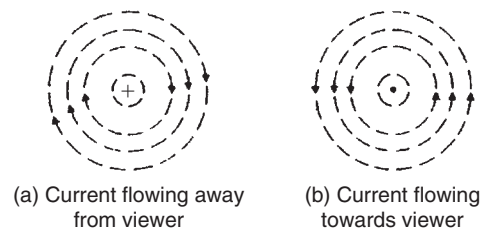
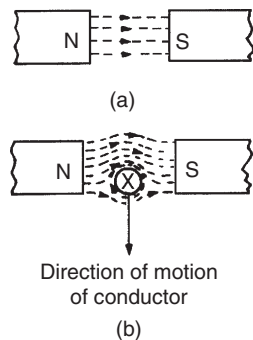

Figure 8.3
Figure 8.13
When dealing with magnetic fields formed by electric current it is usual to portray the effect as shown in Fig. 8.3. The convention adopted is:
- (i) Current flowing away from the viewer, i.e. into the paper, is indicated by  $\oplus$ . This may be thought of as the feathered end of the shaft of an arrow. See Fig. 8.3(a).
- (ii) Current flowing towards the viewer, i.e. out of the paper, is indicated by  $\ominus$ . This may be thought of as the point of an arrow. See Fig. 8.3(b).
For example, with current flowing away from the viewer (Fig. 8.3(a)) a right-hand thread screw driven into the paper has to be rotated clockwise. Hence the direction of the magnetic field is clockwise.
If the current-carrying conductor shown in Fig. 8.3(a) is placed in the magnetic field shown in Fig. 8.13(a), then the two fields interact and cause a force to be exerted on the conductor as shown in Fig. 8.13(b). The field is strengthened above the conductor and weakened below, thus tending to move the conductor downwards. This is the basic principle of operation of the electric motor (see Section 8.4) and the moving-coil instrument (see Section 8.5).